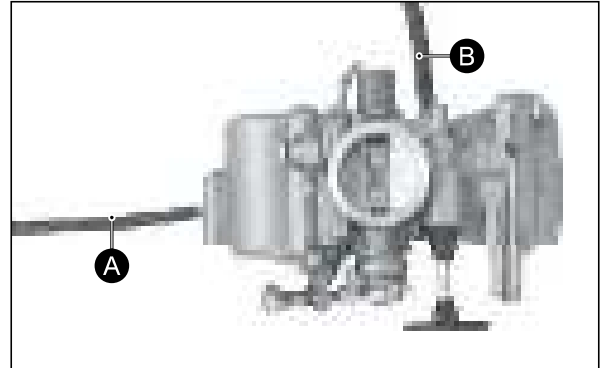

Fig. 4.18
- Pull out the hose air vent (A) and drain hose (B) by dislocating clips. (Fig. 4.18)